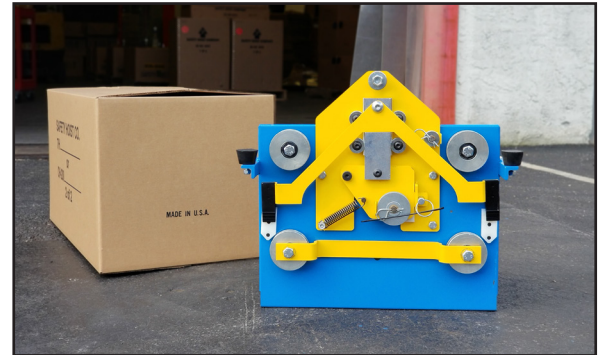

FIGURE 1
- 1.) Remove all parts from the box and inspect for any damage - **See Figure 1**